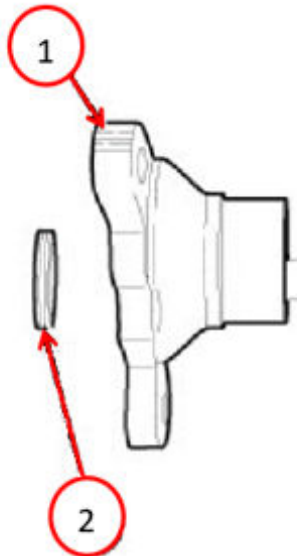

Fig. 53
81. For 2WD vehicles, remove old seal from the output flange and replace with new output flange o-ring Fig. 53.